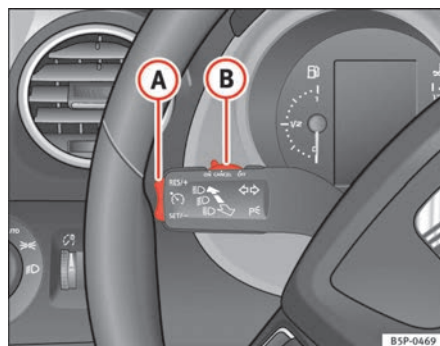

Fig. 131 Indicator and main beam headlight lever: switch and rocker switch for the cruise control
- Press the upper part **RES/+** of the rocker switch ⇒ fig. 131 **A** to increase the speed. The vehicle will continue to accelerate as long as you keep the rocker switch pressed. When you release the switch, the new speed is stored.
Control of the set speed is switched off if you reduce speed by depressing the brake pedal. You can reactivate the control by pressing once on the upper part of the rocker switch **RES/+** ⇒ fig. 131 **A**.